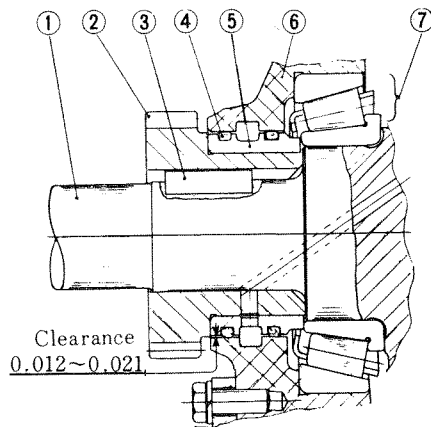

Fig. 36 Structure of oil ring
⑤ As illustrated in Fig. 36, the oil ring is assembled into the crankcase bearing housing (1) (gear side).